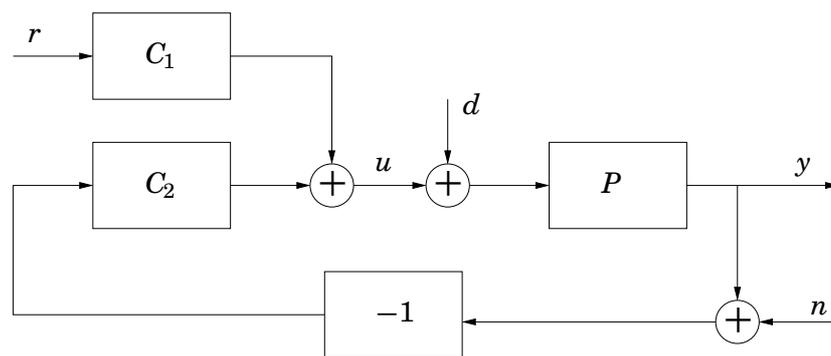
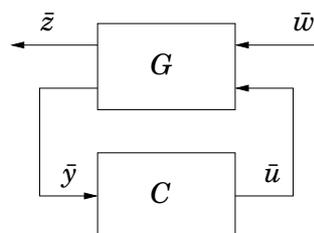

Figure 4 2-DOF control setup in problem 7
Figure 5 Generalized plant in problem 7
7. Consider the 2-DOF control setup in Figure 4. P is the plant and C_1 and C_2 are the control blocks to be designed. The objective is to make the control error $e = r - y$ small without making the control effort u too large.
- a. What is the relation between the signals in the generalized plant depicted in Figure 5 and the signals in Figure 4? (1 p)
- b. Derive the transfer function G in Figure 5. (2 p)